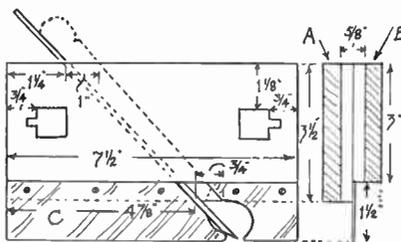

Fig. 1—Side view and cross section of the plane
A side view and cross section of the body of the plane are given in Fig. 1. Cut two pieces of the wood to the dimensions of (A) and screw both together. Be careful in placing the screws, in fact it would be as well to use only four at first, one in each corner, about  $\frac{1}{2}$  in. in, and in the case of the two bottom screws, 1 in. up. In these parts a sloping channel is to be chiselled out for the plane iron and wedge. Pencil lines across the top and bottom at the distances from the left side shown. Now separate the two pieces and join the lines at top and bottom to show the slope of the channel.
the lathe is complete, will be screwed to the bench permanently, or for greater convenience, it can be used in the bench vice by adding a strip of wood 2ins. by 1in. screwed to the underside of the bed and running the whole length of the base, as in Fig. 1. This strip is held in the vice, the lathe bed resting on the jaws of the vice.